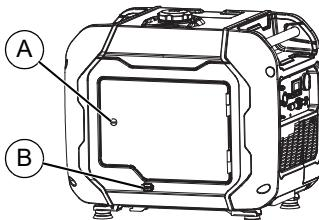

Figure 4-3. Access Door and Oil Drain Covers
2. See **Figure 4-3**. Using a Flat Head screwdriver, turn the lock 1/4 turn clockwise to open service door (A).
5. See **Figure 4-3**. Remove rubber oil drain bolt access cover (B).